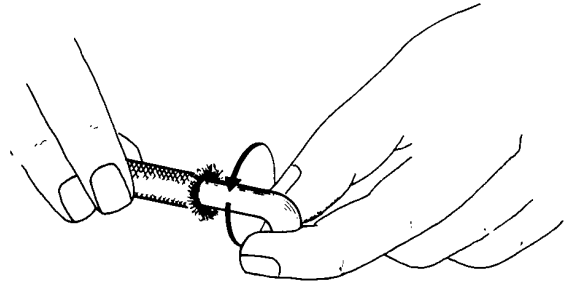
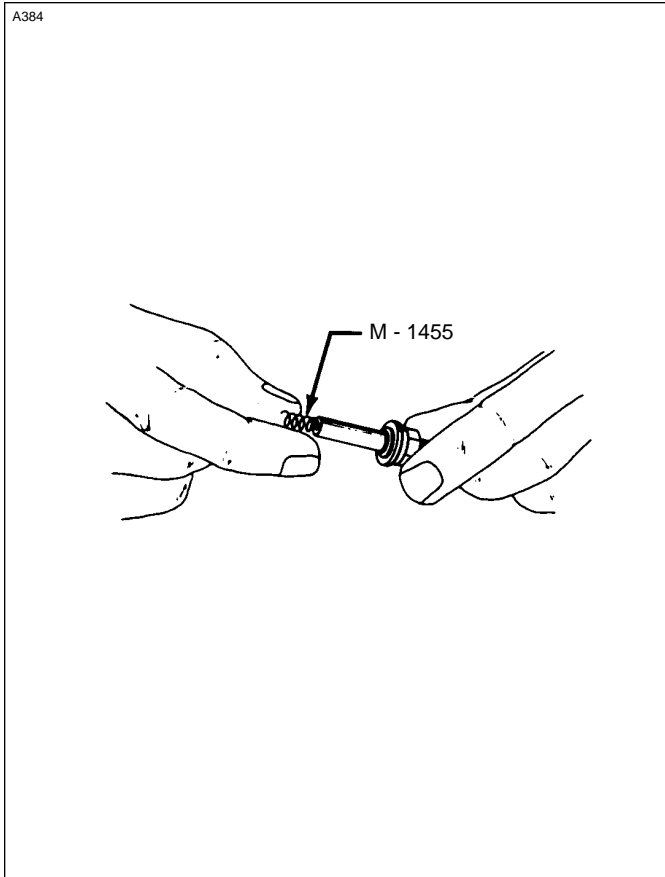

Figure 8-19 Flaring out the Shielding
Figure 8-26 Installation of Spring
- h. After installation of nut and ferrule, bend and rotate the silicone insulation as illustrated in Figure 8-26 to flare out the shielding so a drive ferrule can be inserted. Take care not to cut the silicone insulation with the sharp braiding while the wire is being rotated. (Refer to Figure 8-19.)
- o. Turn M-1455 Spring clockwise on the electrode screw three full turns until the end is flush with the first large coil of the spring. This applies to both ends of the wire. Refer to Figure 8-26.